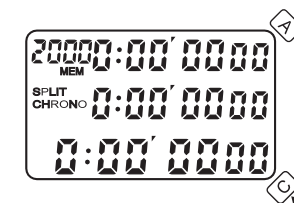

Fig. 2
Press C to go to the **CHRONOGRAPH** mode. The display as shown in Fig. 2. Press A to start.
** Pressing and hold A button when the stopwatch is displaying the **RACE RECORDS** will clear the memories in that race record (when the contents in this race record are cleared the display will show **CLEARED** and sounds a long beep, if A is released before **ED** appears the memories will not be cleared) and continuously holding A button after this will clear the memories of all races (display will show **ALL CLEARED** and display will return to as shown in Fig. 2. Memories are available for storage when they are cleared.